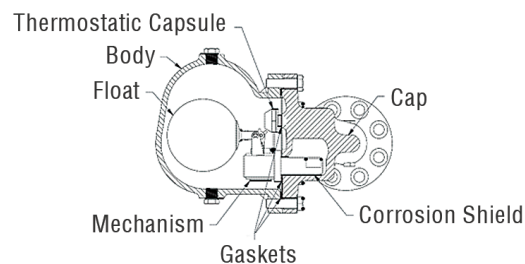

**Figure 4. Bolt Tightening Example**
8. Install a new gasket in the body and secure the body to the cap using a cross-tightening pattern. See Table 4 and Figure 4.